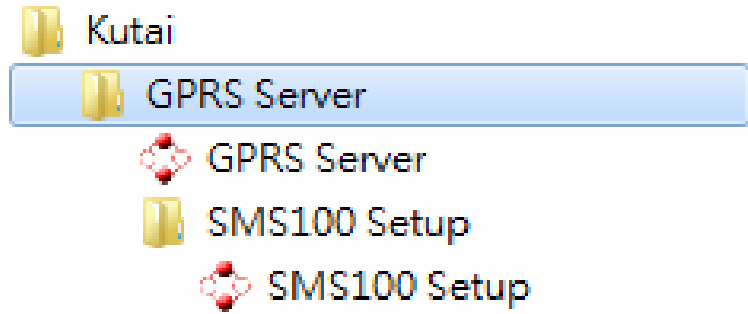

Figure 1-7
8. Figure 1.7 is the installation index.